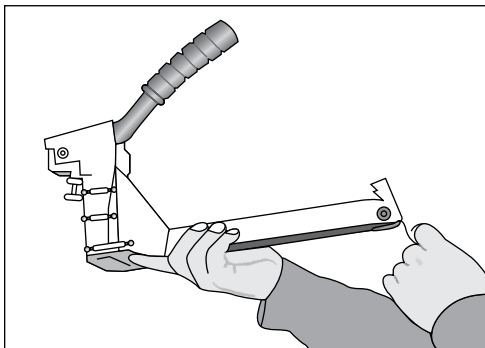

Figure 8
1. Pull pusher back and rotate to a locked position. (See Figure 8)